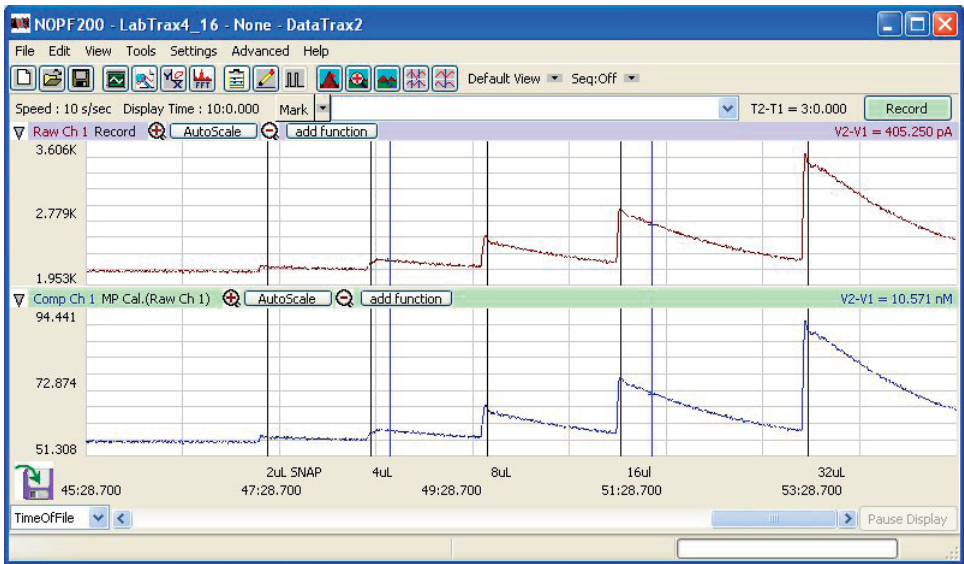

Fig. 47—Raw Data in channel 1, Calibrated data in comparison channel
12. The final calibration results appear at the bottom of the recording on the LabScribe main page as a comparison channel (**Fig. 47**).